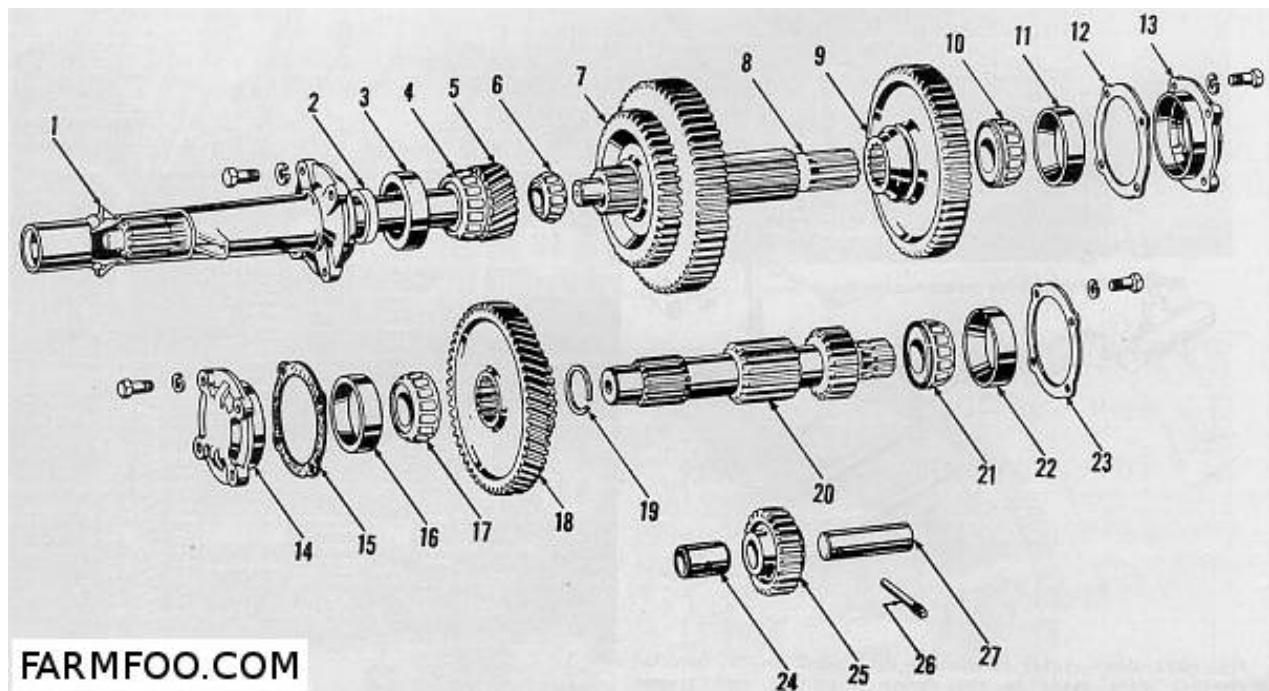

Fig. F055 - Transmission gears and shafts on models 2N-9N.
76. REVERSE IDLER GEAR. May be removed after countershaft is out. Unscrew idler shaft lockpin (26-Fig. F055) located on outer left side of transmission housing and remove idler shaft and gear (27 & 25). Rebush gear or renew gear and shaft and reinstall with beveled gear face toward rear of transmission.